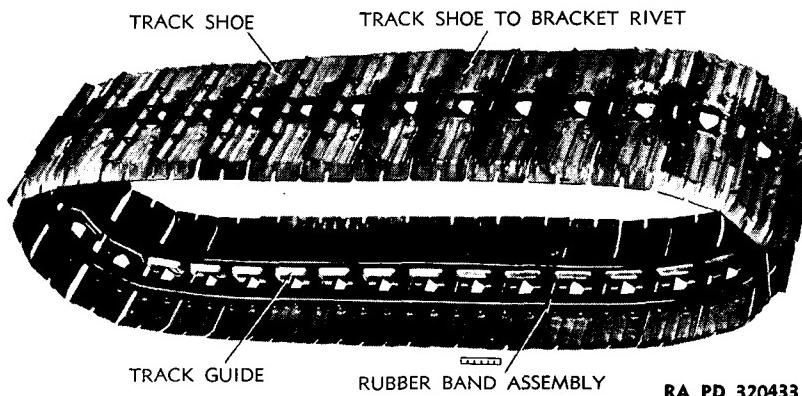

Figure 22 — Track Assembly
a. **Description.** The track (fig. 22) is of the steel-shoe, endless-rubber-belt type. The shoes are connected by the endless rubber belts which are reinforced with embedded steel cables. Each shoe has two cleats to improve traction. The shoes are rubber covered. The track guides and shoes are riveted to brackets on the rubber belts. The brackets are held in place by the steel cables in belts. The track guides run through guide grooves in track sprocket, rear idler, support roller, and bogie wheels. The track assembly is driven by the track sprocket.